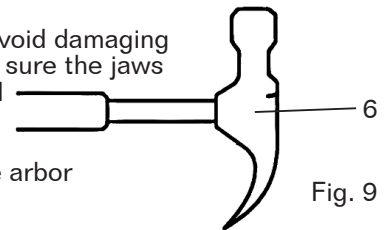

Fig. 9
## INSTALL THE CHUCK (FIG. 9)
1. Inspect and clean the taper hole in the chuck (Fig. 9 - 1) and the spindle (Fig. 9 - 2). Remove all grease, coatings, and particles from the chuck and spindle surfaces with a clean cloth.
2. Open the chuck jaws (Fig. 9 - 3) by manually turning the chuck barrel clockwise. Make sure the jaws are completely recessed inside the chuck.
3. Insert the chuck arbor (Fig. 9 - 4) into the opening at the top of the chuck.
4. Insert the arbor into the spindle. Rotate it until the tang of the arbor (the flats on the end) is aligned with the slot in the spindle, and the chuck and arbor can be pushed upwards. Seat the chuck by placing a block of wood (Fig. 9 - 5, not included) below the chuck and firmly tapping the wood once with a hammer. Alternatively, firmly tap the chuck once with a rubber mallet or dead-blow hammer (not included).